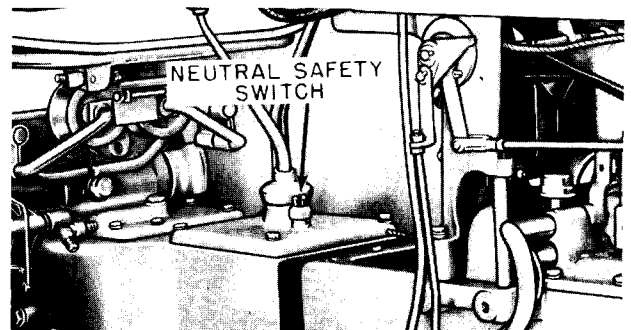

Fig. A-9 Wires Removed From Safety Switch
6. Roll cover up off starter safety switch on main transmission cover and remove the two screws securing wires to safety switch. Fig. A-9.